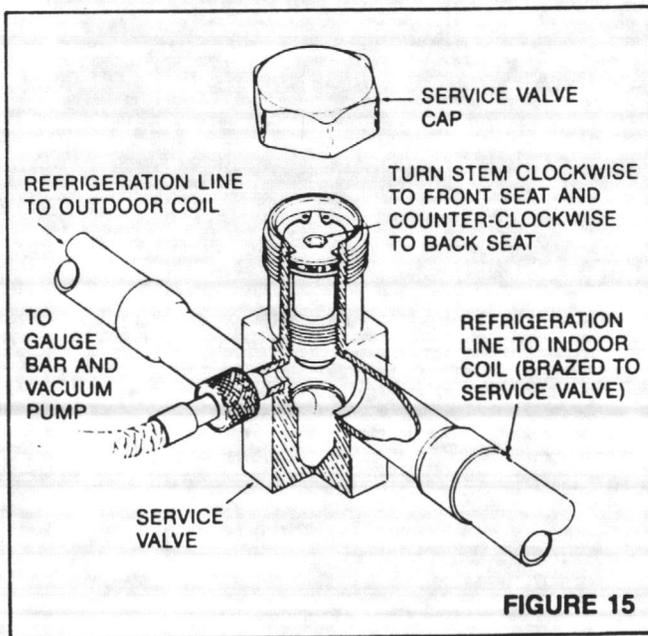

FIGURE 15
1. Connect the vacuum pump to the suction and liquid line gauge port. SEE FIGURE 15.
- A) After evacuation and/or purging of the connecting lines, remove the service valve cap and fully insert the hex wrench into the stem. Backout counterclockwise until the valve stem just touches the retaining ring. SEE FIGURE 15.